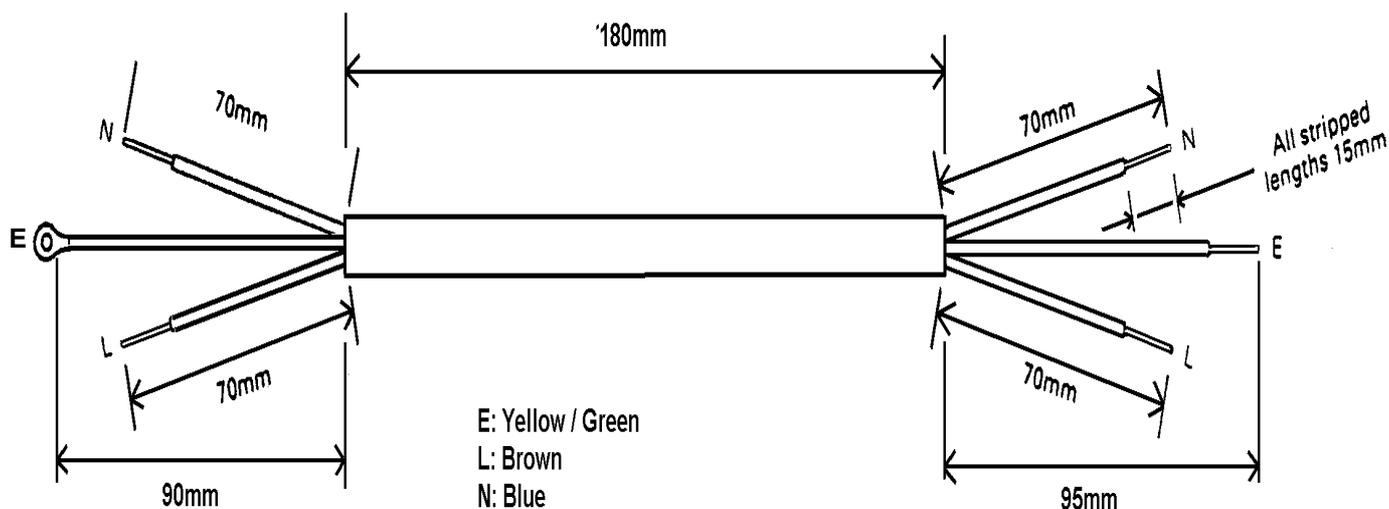

Fig. 2
7. Remove the cable from the second heater, and cut it to the dimensions shown in Fig.2. This will serve as the interlinking cable.